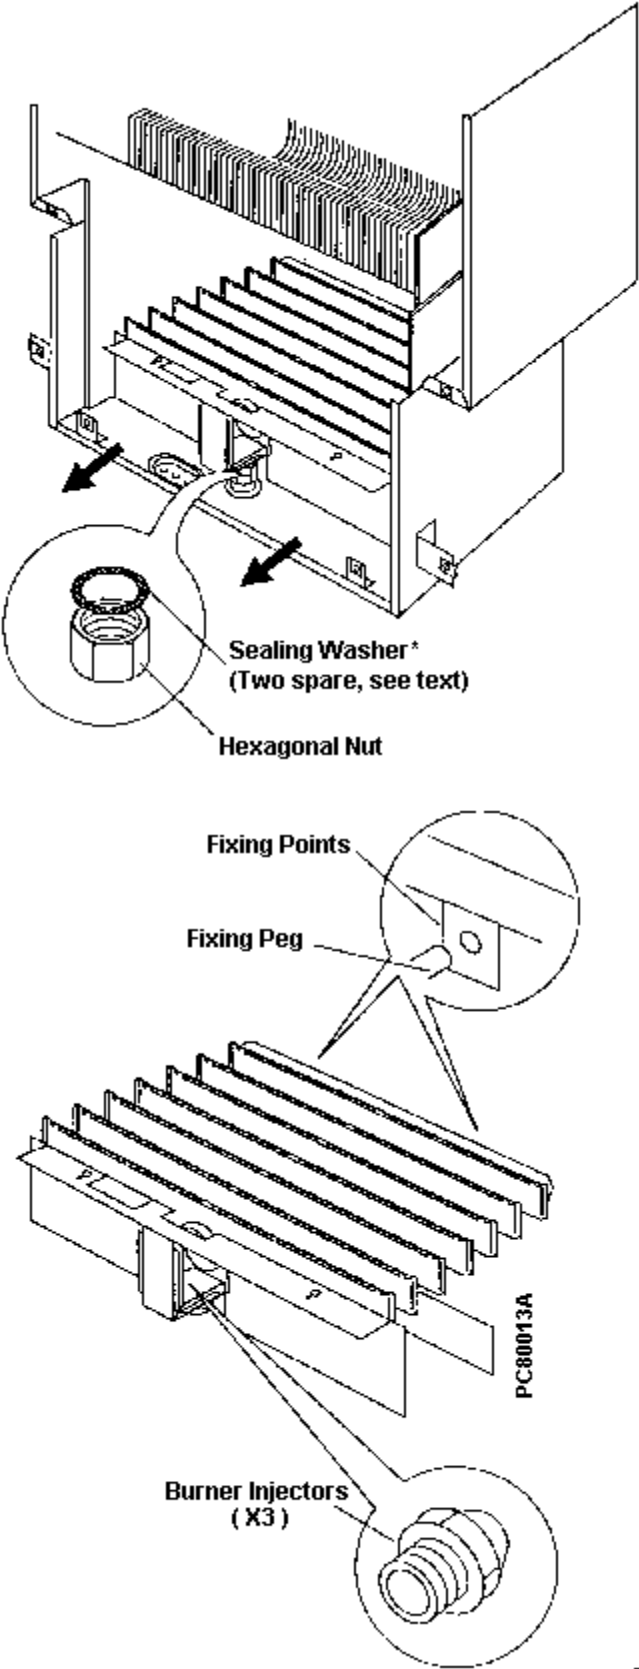

Fig 15
4.8 Remove the Burner - Fig. 15
5.5 Burner - Fig. 15
5.6 Injectors - Fig. 15